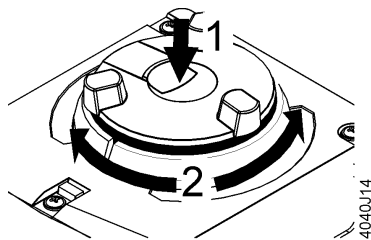

Figure 16.
When turning the manual adjuster in a clockwise/counterclockwise direction (2), the actuator's stem extends/retracts. See Figure 16.